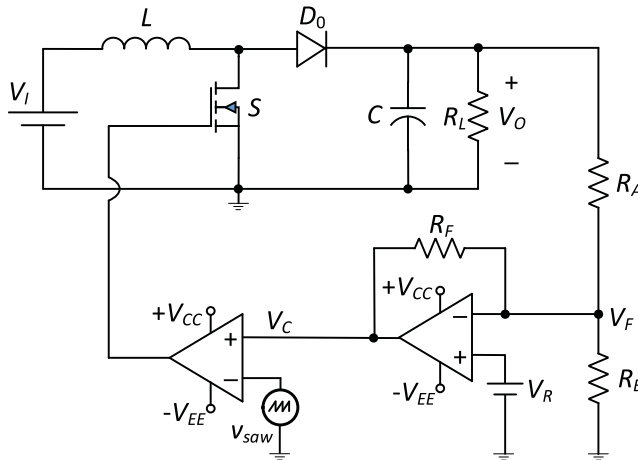

Figure 40.1 Circuit diagram of the closed-loop dc–dc boost converter.
1. Construct the circuit of the closed-loop boost dc–dc converter as shown in Figure 40.1 on the circuit simulator. Enter the values of all the components present in the feedback network, controller, pulse-width modulator, and the boost converter stages.